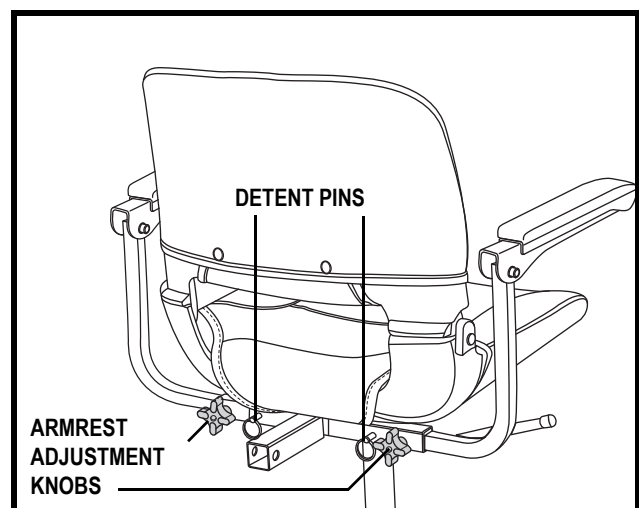

Figure 16. Armrest Width Adjustment
1. Loosen the armrest adjustment knobs. See figure 16.